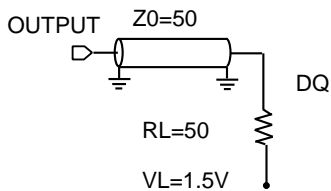
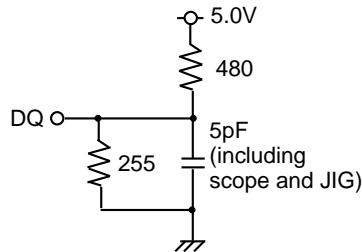

Fig.1 Output load
Fig.2 Output load for t_{en}, t_{dis}
Output loads Fig.1, Fig.2
4. Transition is measured $\pm 500\text{mV}$ from steady state voltage with specified loading in Figure 2.